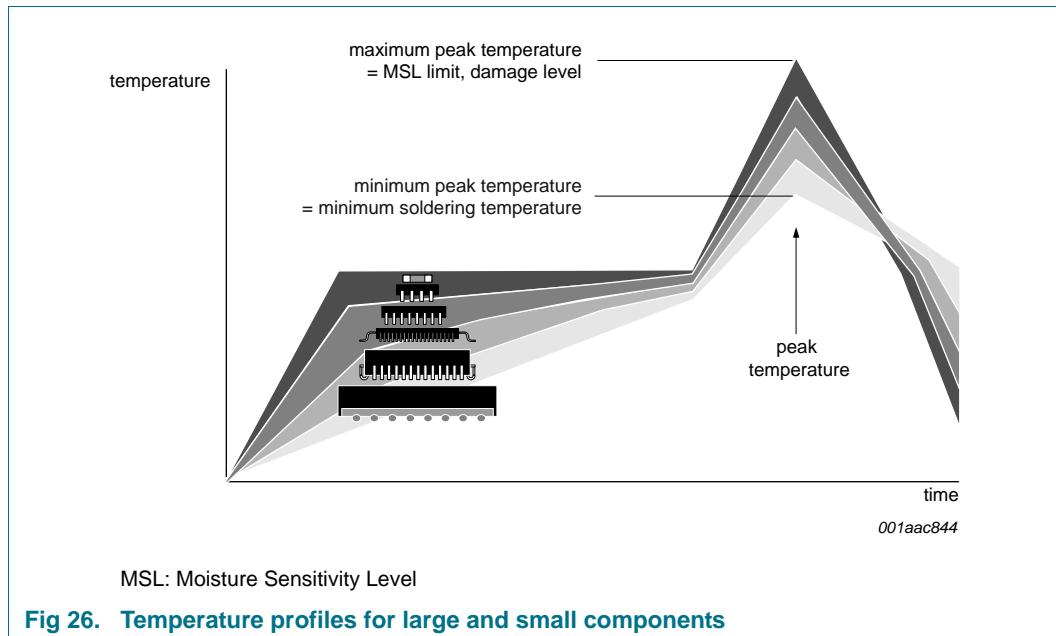

Fig 26. Temperature profiles for large and small components
- Lead-free versus SnPb soldering; note that a lead-free reflow process usually leads to higher minimum peak temperatures (see Figure 26) than a SnPb process, thus reducing the process window
Studies have shown that small packages reach higher temperatures during reflow soldering, see Figure 26.